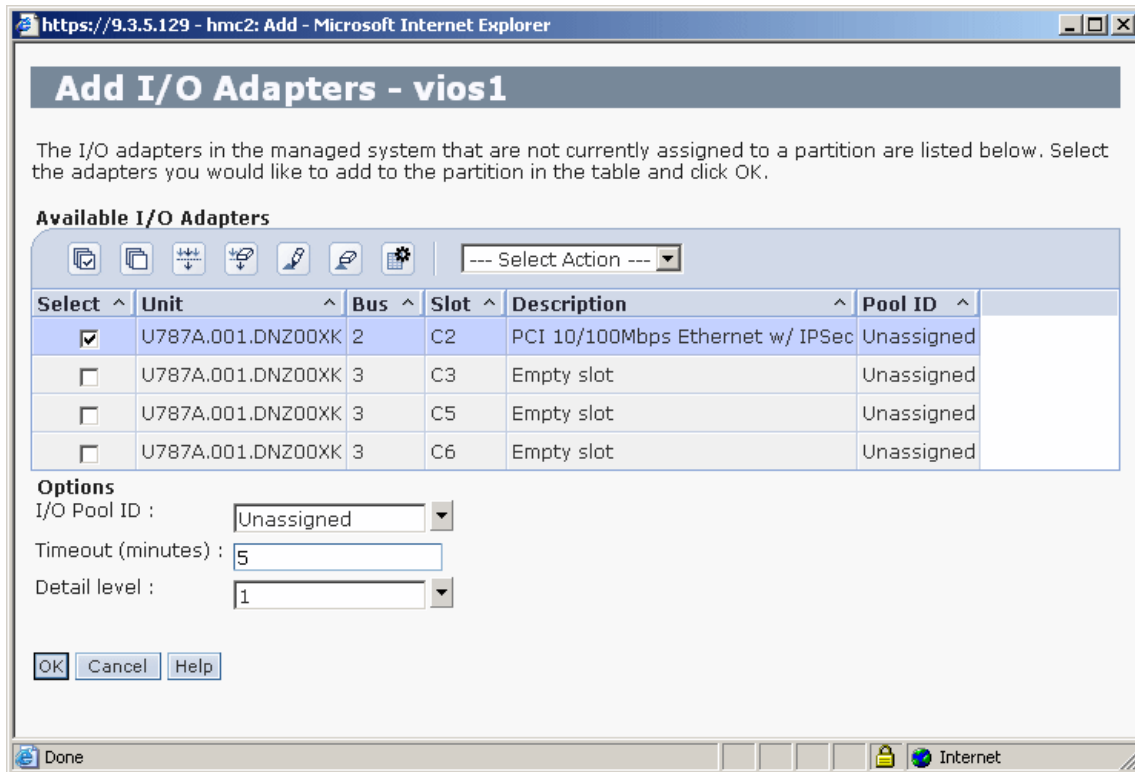

Figure 12-10 Selecting physical adapter to be added
3. The next window will look like the one in Figure 12-10. Select the physical adapter that you want to add to the partition.